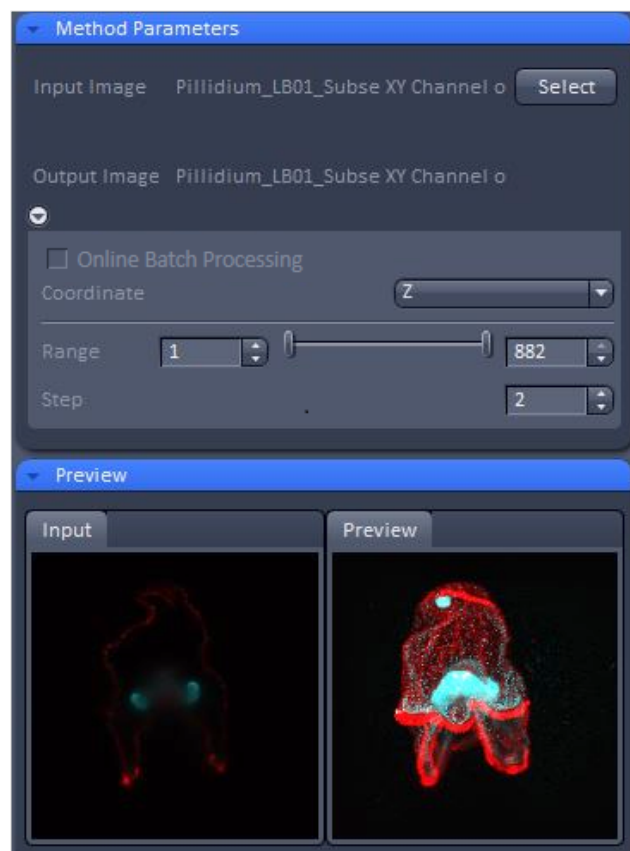

Figure 3 Maximum intensity projection interface
- 1.4 The first entry in the option list is the **Maximum intensity projection**. Click with the mouse on this entry to select it. It will be highlighted and the matching interface is shown at the lower part of the Processing tab (Fig.3)